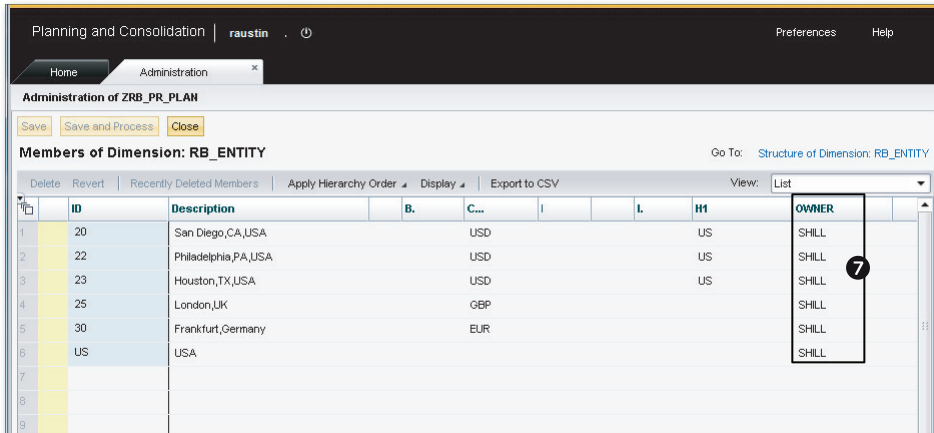

Figure 7.4 Configuring Work Status to Lock Data—Part D
6. Select the RB_ENTITY dimension under DIMENSIONS in the left pane, and enter the owner value for the members in the dimension. The OWNER column identifies who the owner of the entity is. In our example, SHILL (Shawn Hill) is identified as the owner (Figure 7.4, 7). You can also enter a team in the OWNER column or multiple owners separated by commas.